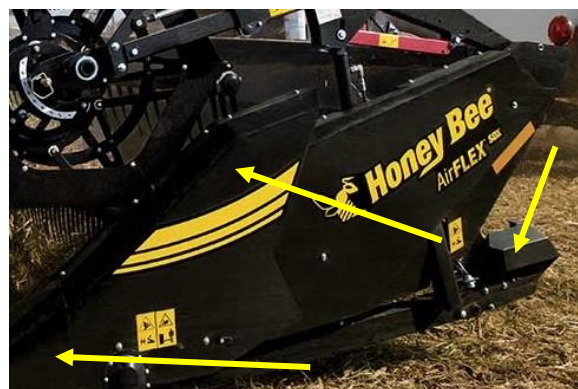

Figure 7
2. Remove the shield covering the airbag. Figure 7